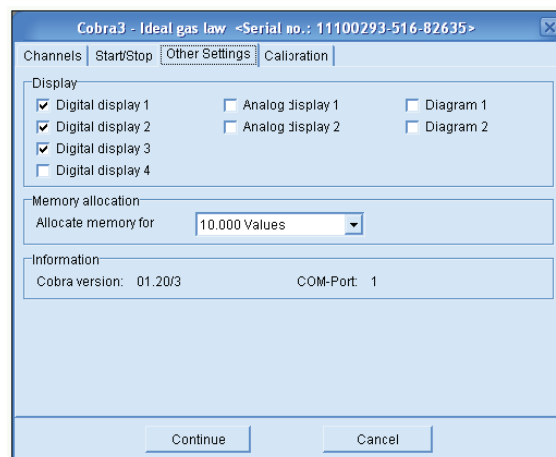

Fig. 3
- **Other settings** (*Digital display* 1, 2, 3 – fig. 3);